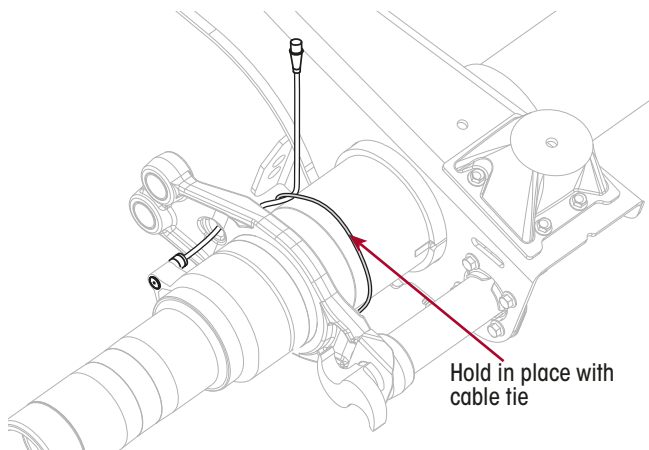
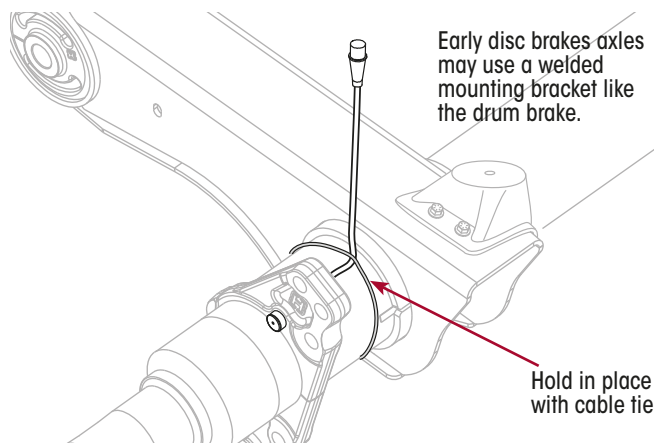
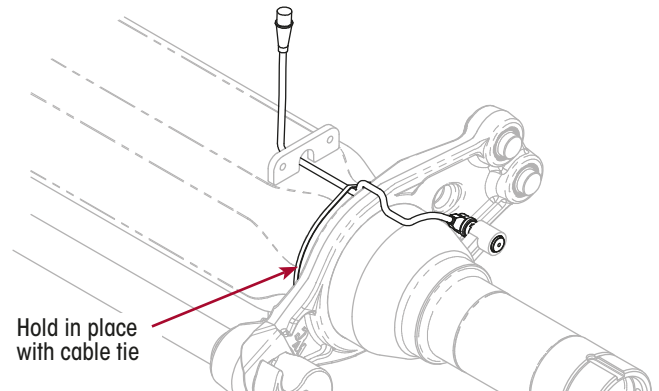

Figure 114: Drum Brake Straight ABS Sensor Installation
Figure 115: Disc Brake Straight ABS Sensor Installation
Figure 116: Drum Brake 90° ABS Sensor Installation
1. Install sensor sleeve by compressing the outer diameter of the sleeve until sleeve can be inserted into the inner diameter of the ABS sensor bracket. For later disc brake axles, the sensor should be installed into the fourth opening in the brake spider (i.e. not the calliper mounting hole). Insert the sleeve from the inboard side of the axle and press sleeve toward the outboard end of the axle until the bent over tabs on the sleeve contact the end of the ABS bracket tube. Refer Figure 114, Figure 115 and Figure 116.
- Straight Sensor Drum: Feed sensor cable through the opening in the brake spider plate behind the sensor and through opening in dust shield. Refer Figure 114.
- Straight Sensor Disc: Tie sensor cable to ensure it does not foul during suspension movement. Refer Figure 115.
- Right-Angle Sensor Drum: Feed the sensor cable around the brake spider and through the opening in the dust cover or dust cover flange as shown. Refer Figure 116.